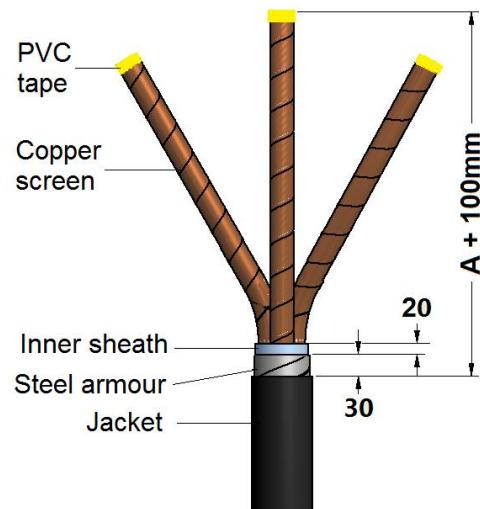

Figure 1
1. As figure 1 shown, fix the cable and remove cable jacket length required for "A" (A=insulated tube +100mm), Dimension "A" just for craftsman's reference, it can be varied based on the real situation. Keeping the steel armour length 30mm. Be sure not damage screen layer when remove the armour. Wrap the end of copper screen layer temporally with PVC tape.